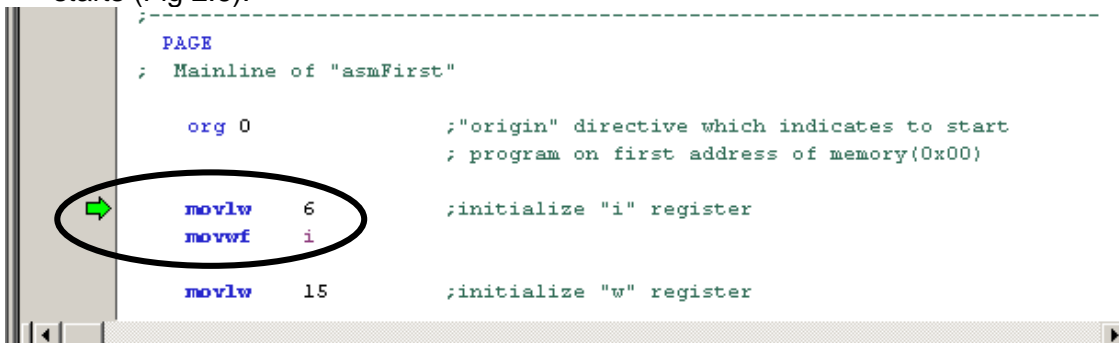

Fig 2.6: Program Counter
- b) You will notice a green arrow (which represents the PC (Program Counter)) pop up on the screen, pointing at the first line of code after “org 0”. This is where the simulator starts (Fig 2.6).